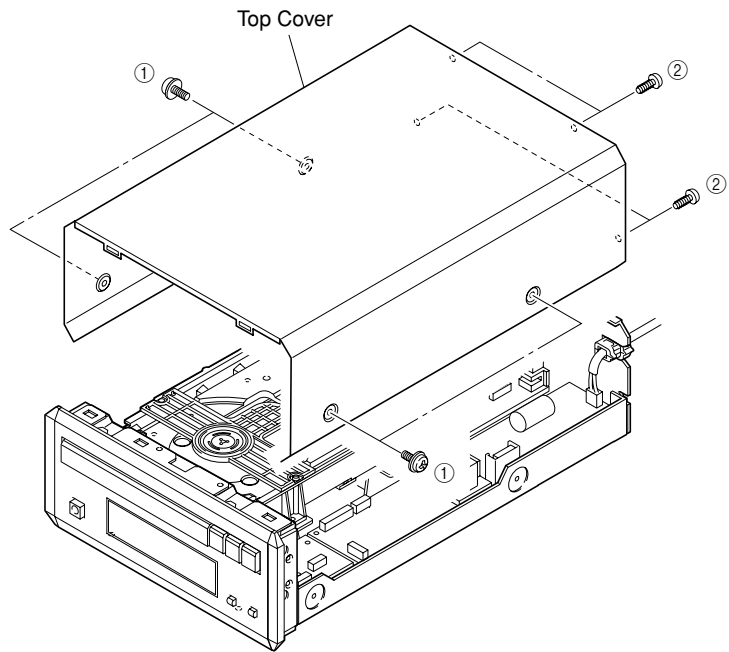

Fig. 1
- a. Remove 4 screws (①), 4 screws (②). (Fig. 1)